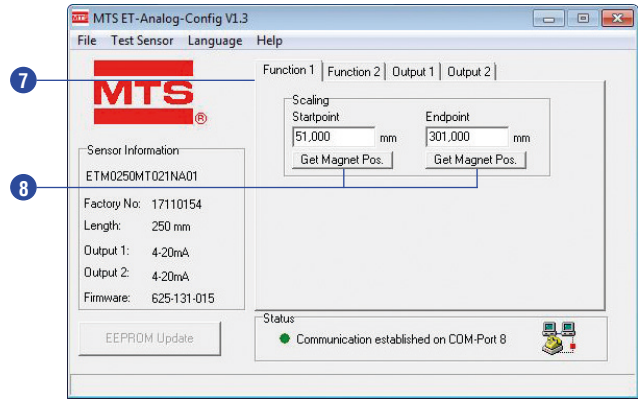

Fig. 30: Dialog field with tabs
- 7 Determine the measuring range with **Startpoint** and **Endpoint** via tab **Function 1** (Fig. 30).
- 8 The current magnet position can be stored via buttons **Get Magnet Pos..**. The measuring direction changes, when the value of the **startpoint** is higher than the value of the **endpoint**. Independent of the measuring direction, the minimum measuring distance is 25 mm (Fig. 30).